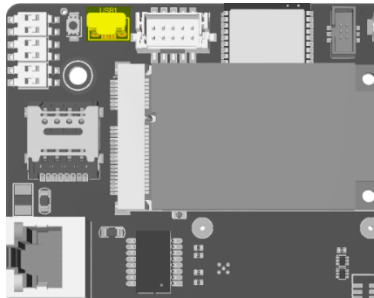

Fig. 1 Position of USB connector
4. Connect a Micro USB data cable into the Micro USB receptacle positioned on the upper left of the main board (see fig. 1).